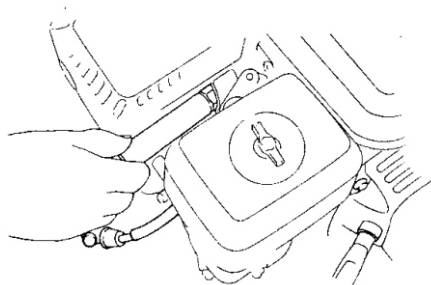

Fig. 14
7) After installed a new spark plug by hand, tighten it 1/2 circle by wrench (1/8 to 1/4 circle for a used spark plug). See figure 14.